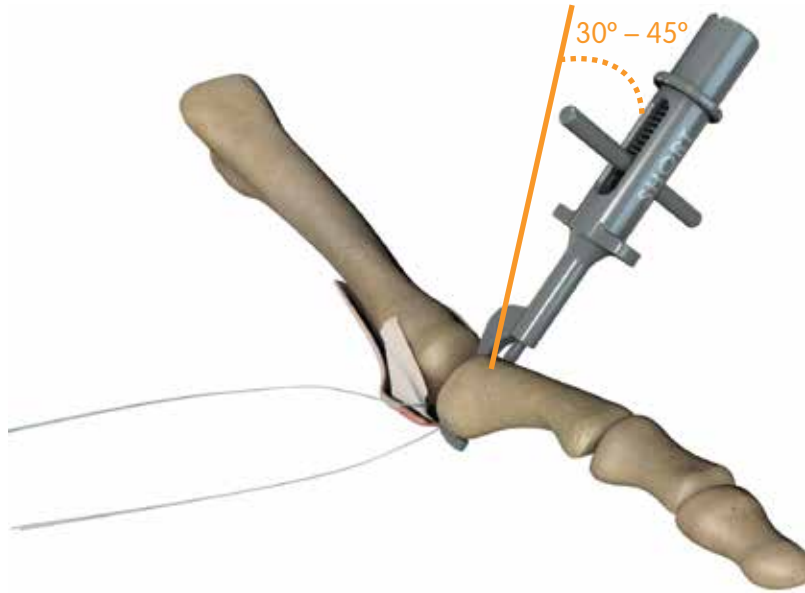

Figure 14: Concavity of the phalanx fully engaged
1. Place the distal tip of the Phalangeal Drill Guide, Short Offset (REF 72204321) at the ligament attachment site on the bony rise of the phalanx. Place the curve of the drill guide on the concavity of the phalanx. Place the proximal end of the drill guide  $30^{\circ} - 45^{\circ}$  to the sagittal plane (Figure 14).